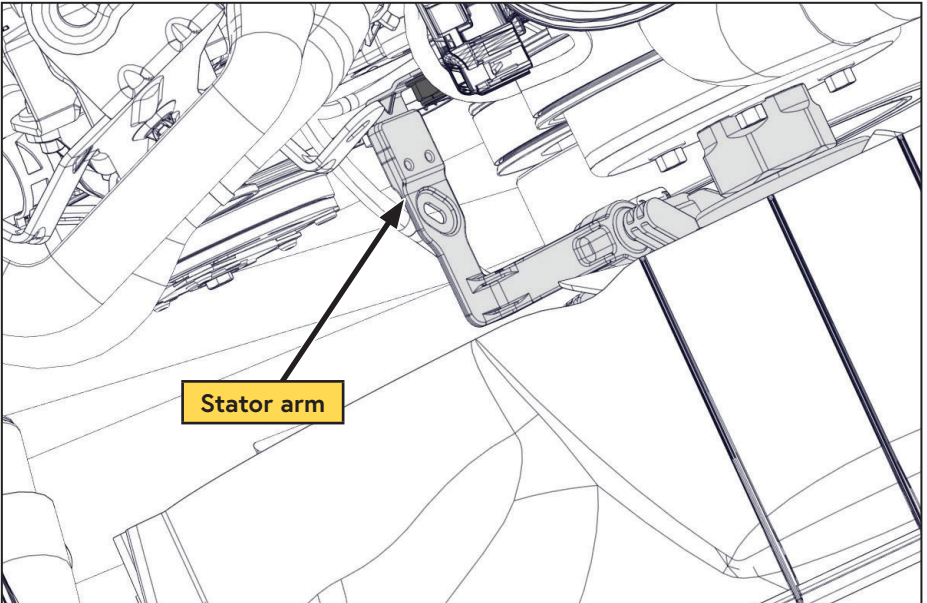

Figure 3 — Remove fan clutch stator arm
- Remove the fan clutch stator arm (Figure 3).